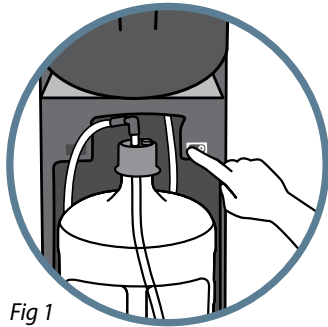

Fig 1
1. Slide the cooler door up and turn off the hot tank switch (Fig 1). Let the unit stand for one hour before cleaning to allow the hot tank to cool.